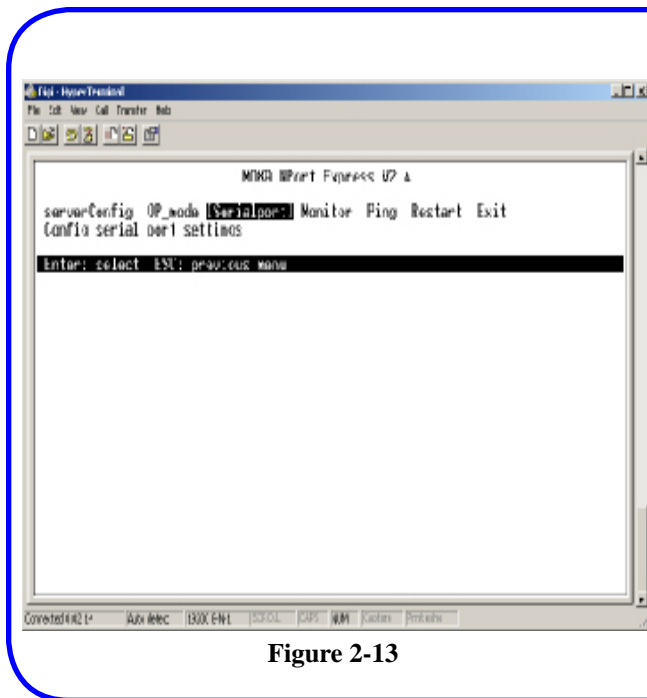

Figure 2-13
28. Press the right arrow key to select the **Serialport** option and press the **ENTER** key. **Figure 2-13**